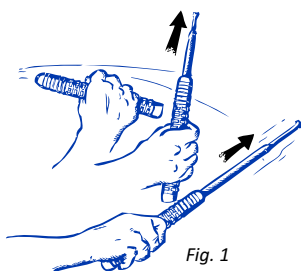

Fig. 1
2. **Click the baton** slightly downward, in a horizontal direction or slightly upward with sufficient speed for the telescopic tubes to slide out and hold firmly open – see Fig. 1. The faster you open the baton, the stronger it holds in the open position – but it could then also be more difficult to close it.